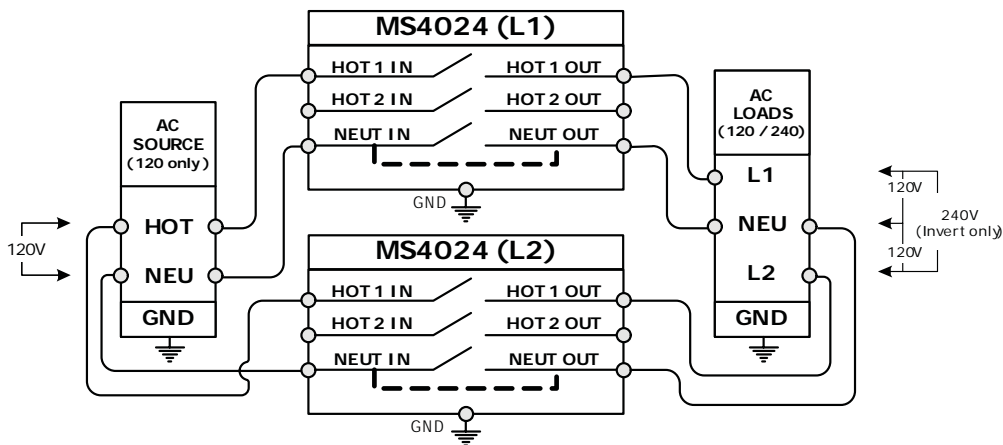

Figure 8, Single In/Out (30A w/ 120VAC only source)
- **Single-phase (120VAC only)** – This AC source has one 120VAC line, one neutral, and a ground. The 120VAC line is fed to both the HOT 1 IN's of each inverter and when in Charge mode, it will pass thru to the HOT 1 OUT's of each inverter. The incoming power is shared with the charger, but since the two lines come from the same source (unlike the split-phase type), the two lines are in-phase and the voltage between the HOT 1 OUT lines will be zero. While this AC source is used to charge your batteries, you must remember that you will not be able to power any 240VAC loads (voltage from L1 to L2 will be zero). Once the AC source is disconnected and the inverters again start inverting, you can reconnect your 240VAC loads. See Figures 8 and 10.